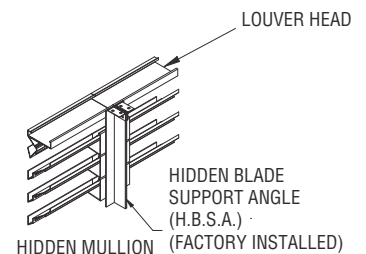

FIG. 3.4 - ARCHITECTURAL VERTICAL MULLION
6. For concealed architectural mullions on stationary blade louvers, install gasket or sealant (by others) between mating Hidden Blade Support Angles (H.B.S.A.). See Fig. 3.4.